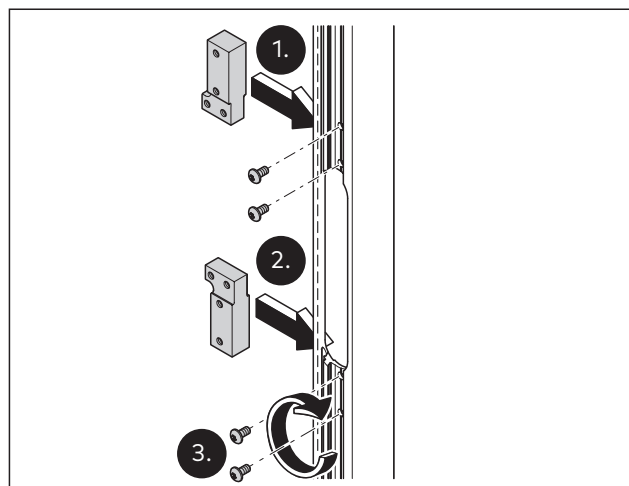

Fig. 42 Attach the mounting bracket for the TECTUS hinge on the hinge side in the milled groove.
1. Position the mounting brackets for the TECTUS hinges in the intended position in the vertical cover profile for the door frame on the hinge side (Fig. 42).